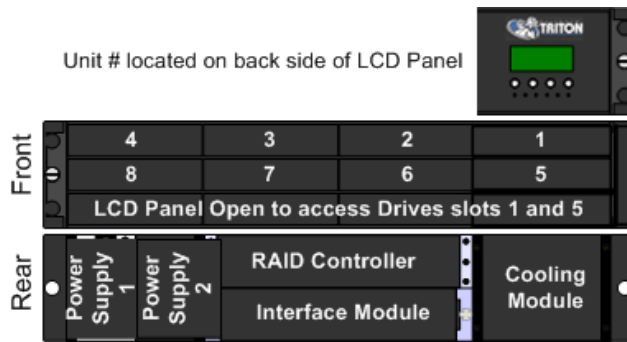

Figure 3—Module Locations and Drive Bays
The SurfRAID TRITON 8S3 Storage System supports up to eight (8) SATA disk drives per enclosure. Refer to Figure 3 for slot locations.
Important: If your SurfRAID TRITON Storage System was Pre-Configured the disk drives will be labeled with a slot number and unit number. The disks must go in the correct unit and in their correct slots. See Figure 3. and Pre-Configuration paperwork that shipped with your RAID system.
Before powering on the SurfRAID TRITON 8S3 system, please ensure that all modules are firmly seated in their correct bays (See Figure 3)